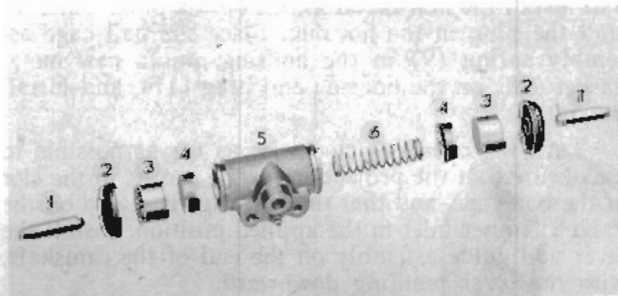

FIG. 12
To disassemble the cylinder, remove the cylinder clamp and remove the rubber boot (2, Fig. 12) and push rod (1) from one end of the cylinder (5). Removal of the boot permits the spring (6) to push out the cup (4) and piston (3). Then, remove the boot and push rod from the other end and slip the other cup and piston out of the cylinder.